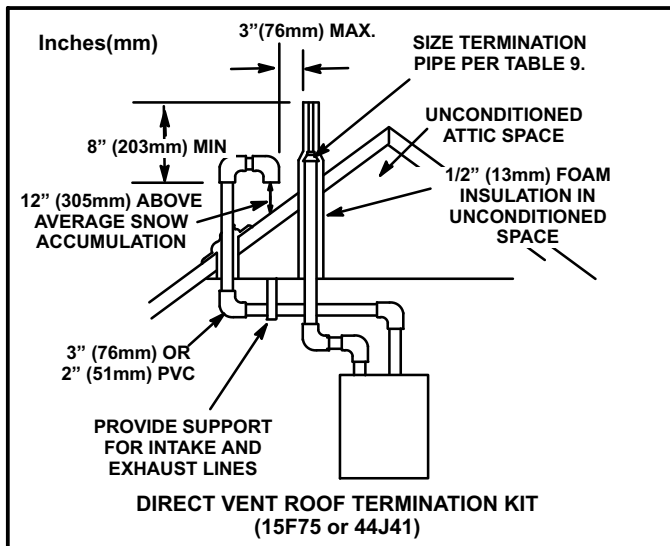

FIGURE 31
Intake and exhaust pipes may be routed either horizontally through an outside wall or vertically through the roof. In attic or closet installations, vertical termination through the roof is preferred. Figures 31 through 41 show typical terminations.
- 3 - On roof terminations, the intake piping should terminate straight down using two 90° elbows (See figure 31).